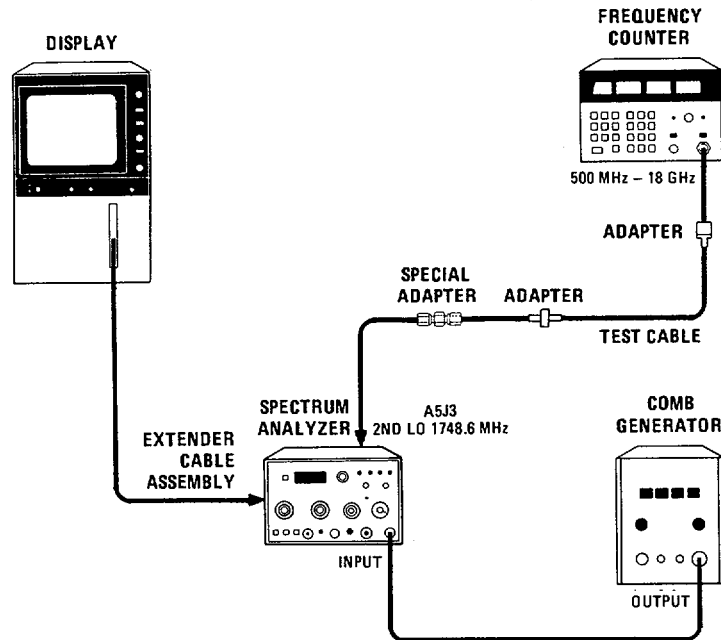
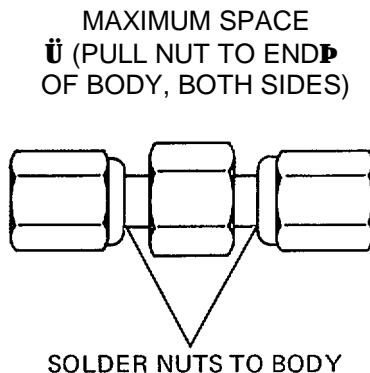

Figure 5-1. Second Converter LO and Bandpass Adjustment Test Setup
Figure 5-2. Special Adapter Used in Second Converter LO and Bandpass Test Setup
Special Adapter.....	See Figure 5-2
The special adapter in Figure 5-1 is made from a SMC (f) to SMC (f) adapter, HP Part No. 1250-1113. The nuts must be soldered to the body of the subminiature RF adapter so they will both turn with the body. Be sure to space the nuts properly before soldering (see Figure 5-2).
2. Connect equipment as shown in Figure 5-1 and switch display mainframe power ON. Connect counter to A5J3 at the top of A5 Converter Assembly. Connect comb generator to HP 8558B INPUT.